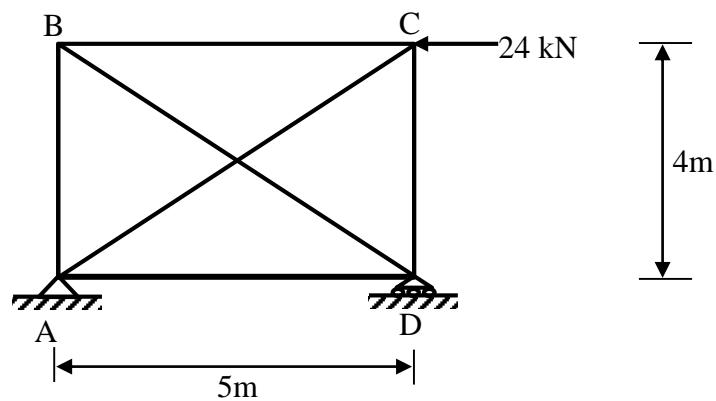

Figure A2(b) / Rajah A2(b)
- (b) A statically indeterminate truss is subjected to an external load as shown in **Figure A2(b)**. The cross-sectional area and Modulus of Young are constant for each member. The internal forces in all members of the truss which was caused by the external force are given in **Table A2(b)**.